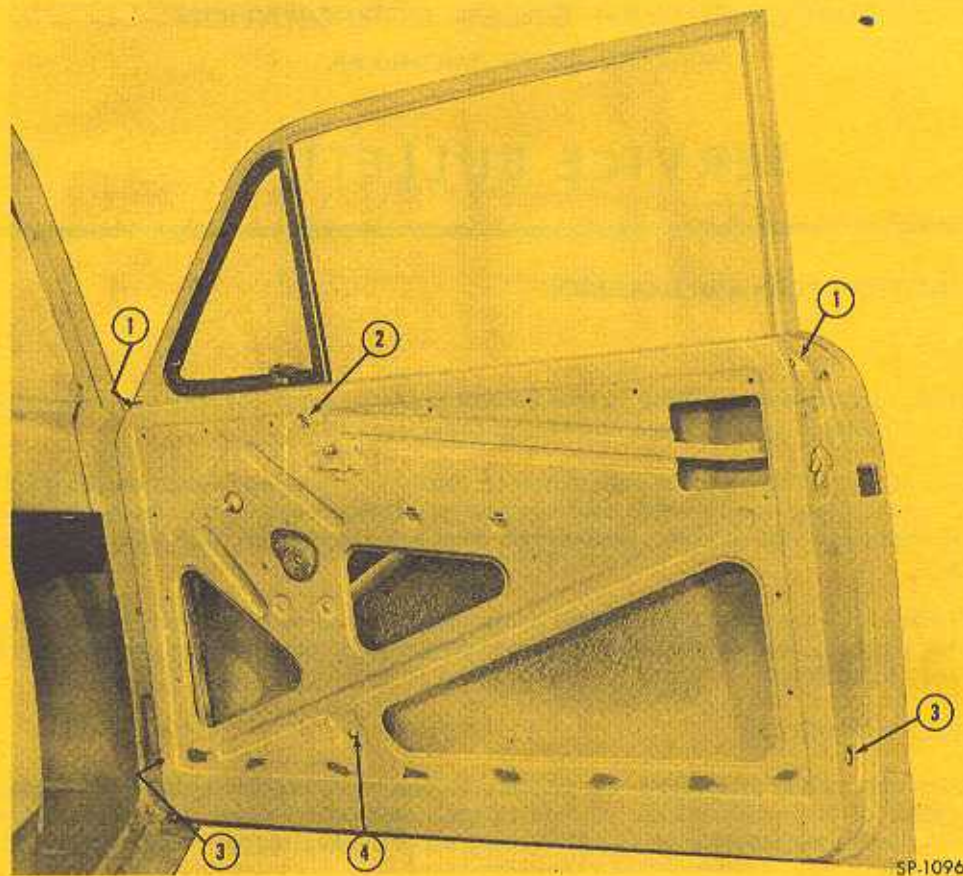

Fig. 1 - Window Frame Installation in the Door
2. After it has been determined which way and how much the window frame has to be moved, loosen screws (1) and (2) shown in Fig. 1. Then loosen screws (3) sufficiently to provide free movement of the lower ends of the frame inside the door.
3. Loosen stud lock nut (4). Then, using a screwdriver, turn the stud clockwise to move the top of the window frame away from the door reveal or counter-clockwise to move the frame